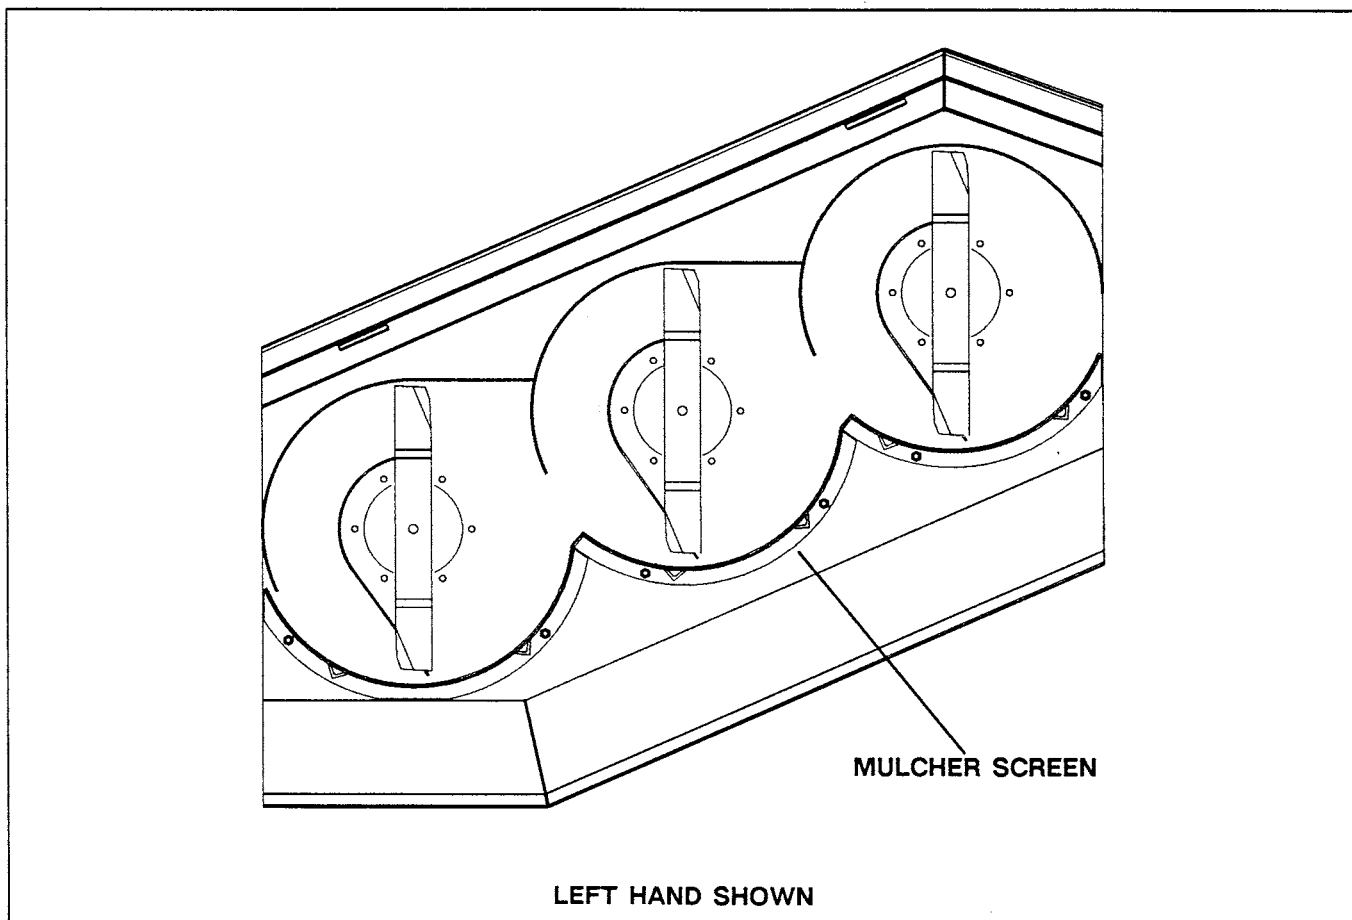

Figure 2
3. Position mulcher screen into deck as shown in figure 2.
6. Remove mulcher screen from deck and drill (6) 13/32" (.406) dia. holes at positions marked.
7. Secure mulcher screen to deck with (6) 3/8-16 x 7/8" lg. capscrews.